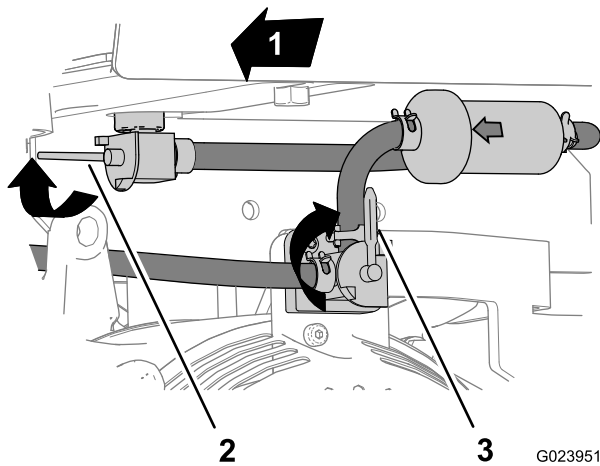

Figure 25
2. Rotate the lever for the tank-shutoff valve forward and up to the Off position (Figure 25).
4. Rotate the lever for the engine switch clockwise to the Stop position, and allow the engine to cool (Figure 25).
12. Open the tank-shutoff valve and turn on the engine switch, and check for fuel leaks (Figure 25).